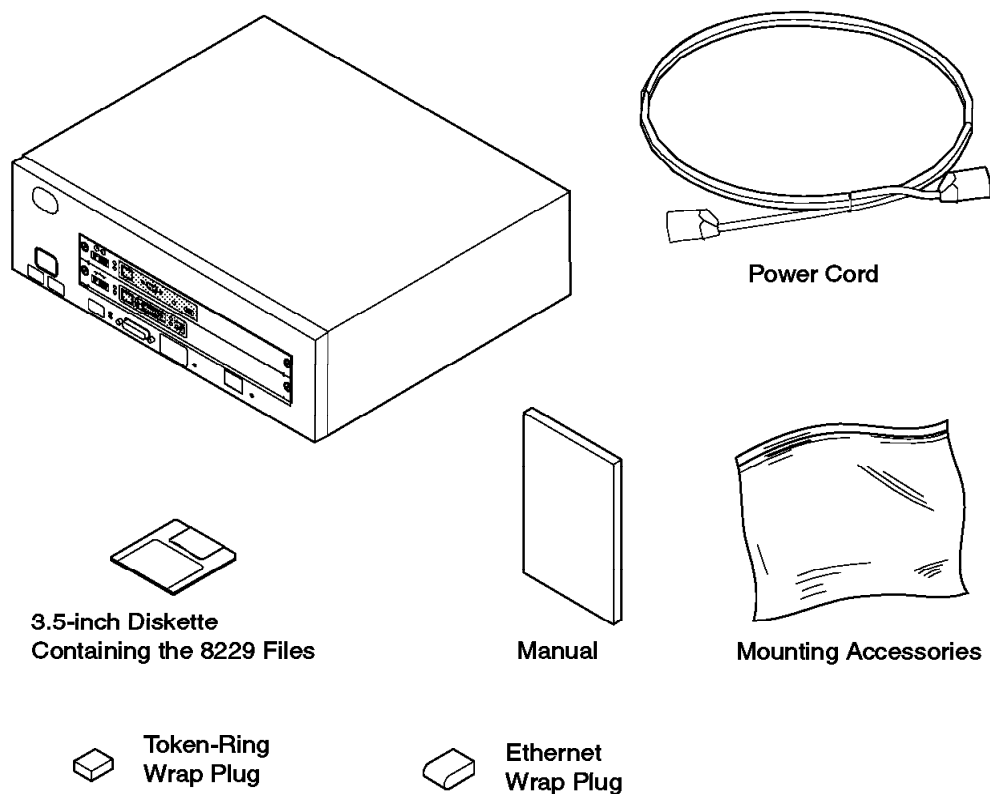

Figure 3. Contents of the Shipping Carton for the Ethernet Bridge.
- ___ 3. Make sure that you have everything (see Figure 3), then go to step 4 on page 10.